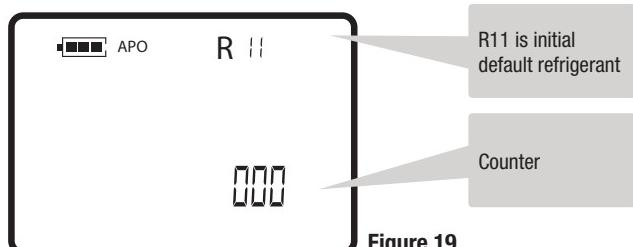

Figure 19
- 2) Press and hold **SET** to enter the Refrigerant Selection Screen (**FIG 19**).
- 2) Press **SET** to enter “**PrO**” menu. The Refrigerant Selection Screen appears (**FIG. 19**).
- 2) Press **SET**. The **Refrigerant Selection Screen** appears (FIG. 19).
- 2) Press **SET** to enter “**PrO**” Screen. The **Refrigerant Selection Screen** appears (**FIG. 19**).